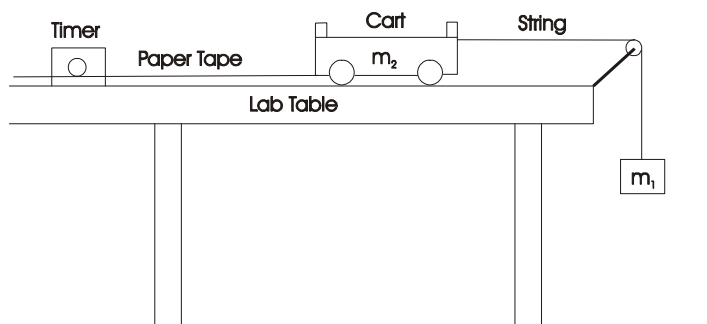

Figure 2.1 – Experimental arrangement.
**Theory:** The set-up for the experiment is shown schematically in Fig. 2-1. Obviously the acceleration of the two masses depends on the weight of the mass  $m_1$ , which in turn depends on the value of  $g$ . Mass  $m_2$  is a cart, able to roll on the lab table with a small but finite friction.  $m_2$  is connected to the hanging mass  $m_1$  by a light (negligible mass) string passing over a pulley. When the system is released from rest,  $m_1$  will accelerate downward and  $m_2$  will accelerate forward with an acceleration of the same magnitude
**Setup:** The experimental setup is shown schematically in Figure 2-1 and has been described in previous section.
- Set up the equipment as shown in Figure 2-1. Adjust for at least 65 cm of travel for the cart and the hanging mass. Fasten the tape to the bottom of the cart with a thumb tack or masking tape. Run the tape through the timer. **To obtain good quality data you must observe the following precautions:**